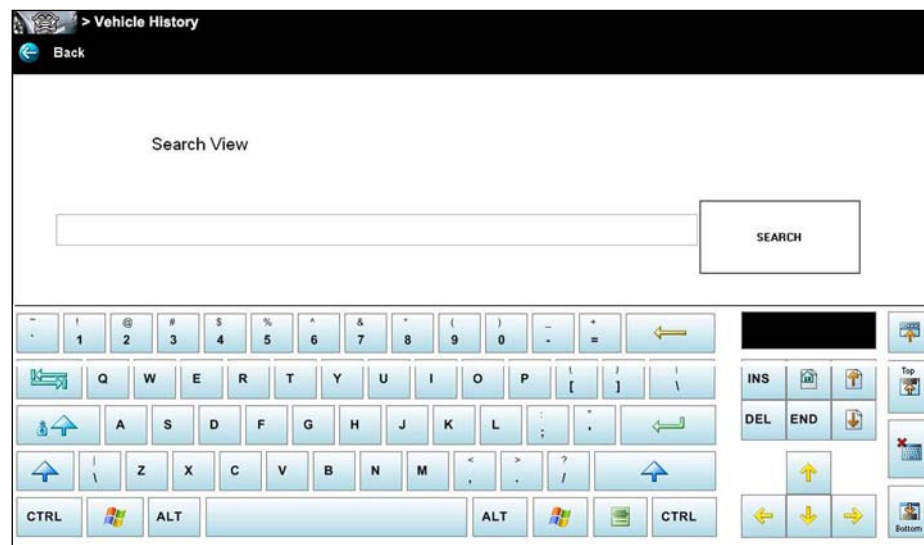

Figure 11-3 Sample Search dialog box
2. Select within the text field of the search window to open the virtual keyboard (Figure 11-3).